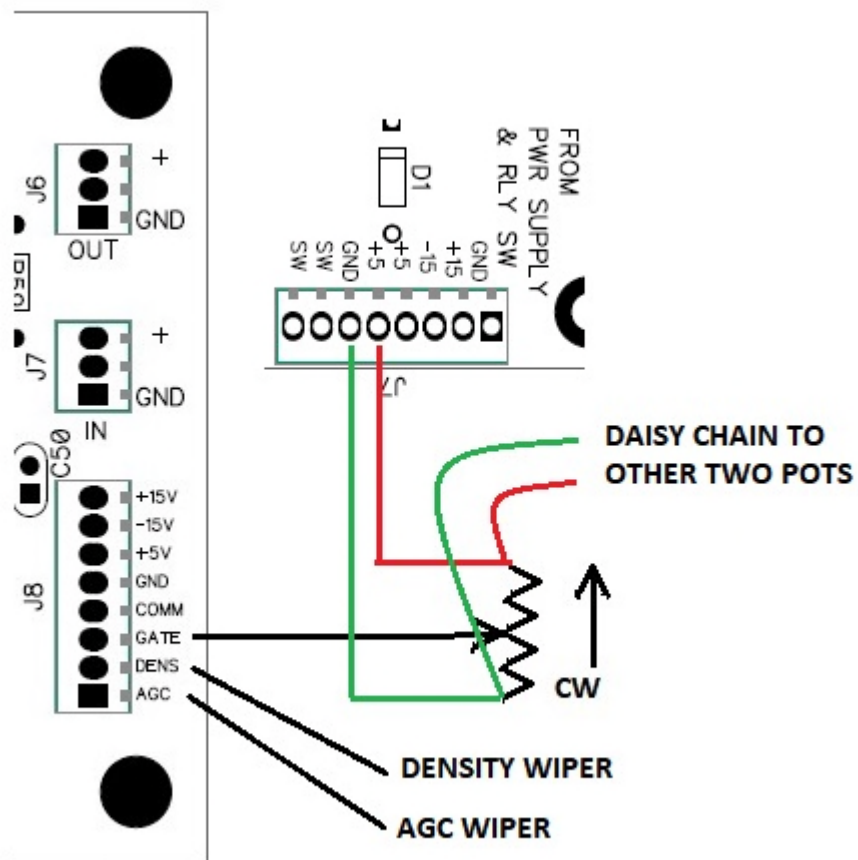

Figure 3
3. There are three linear taper pots for adjustment of the Density, Gate and AGC. Power is supplied to them from the MB1 as shown, +5V on the clockwise end and GND on the counterclockwise end. These can be daisy chained to each pot in parallel. The wipers are brought back to the appropriate connection on the BP1 as indicated in Figure 3.